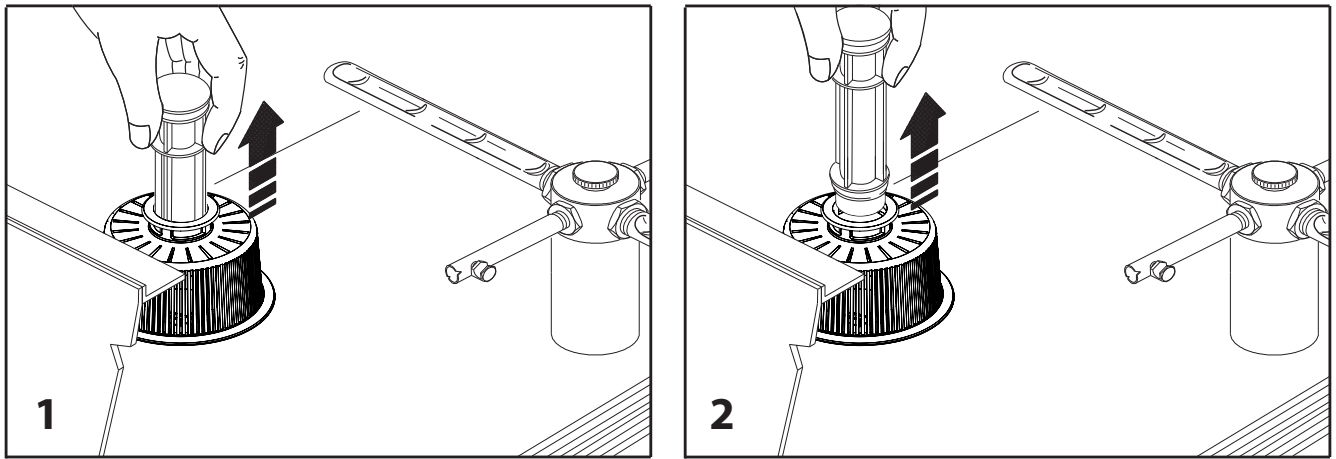

Fig. 16
2. remove the overflow pipe (fig. 16)
3. if the dishwasher is equipped with drain pump, before turning it off, remove the overflow tube (fig. 16) and operate the pump by pressing the DRAIN PUMP KEY (see para. 4.6). When draining is finished, the dishwasher switches off. Disconnect it from the mains.